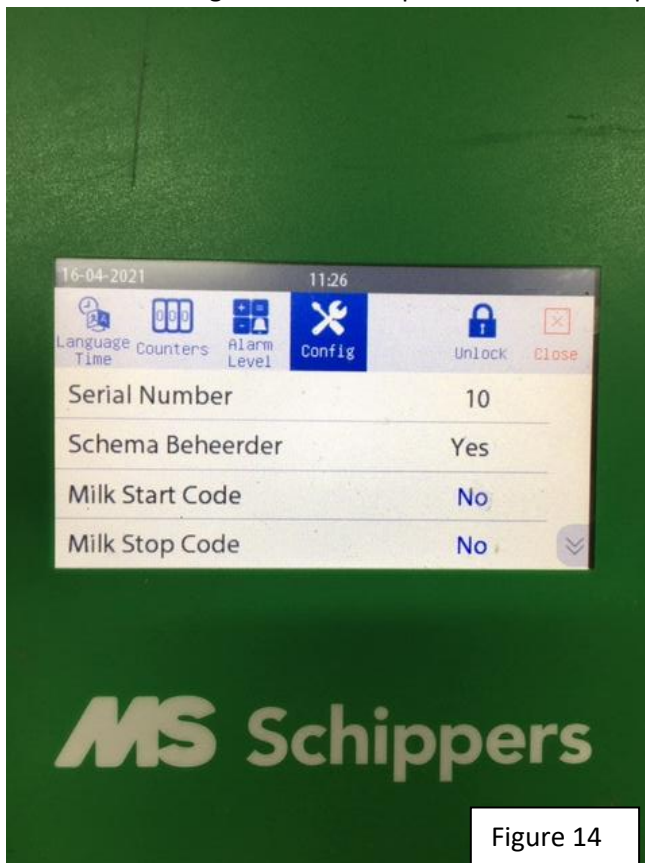

Figure 14
1. Press the "Config" icon at the top of the screen to open the next screen. (figure 14)